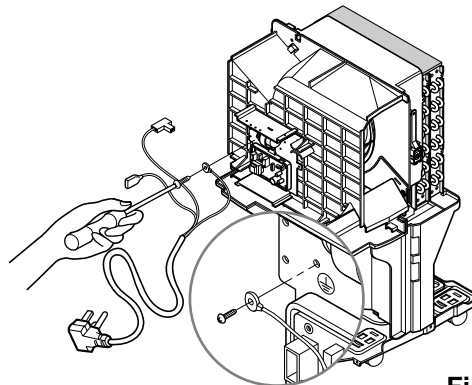

Figure 13
1. After opening the control box, remove all screws that fasten the earth wires. (See Figure 13)